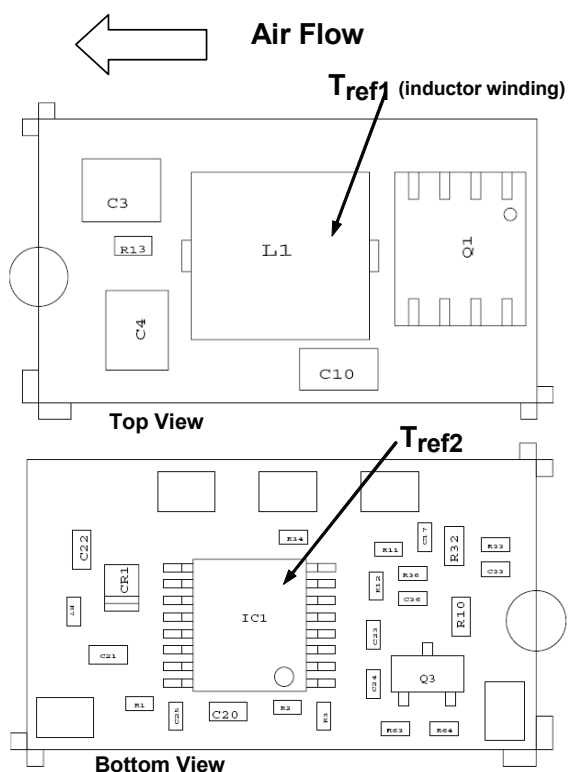
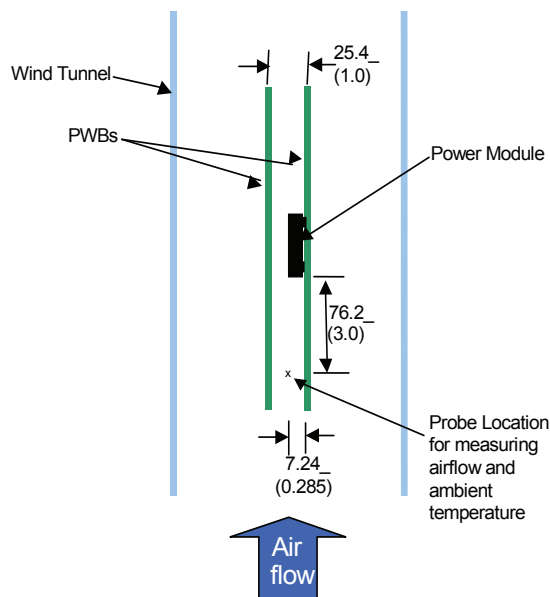

Figure 31. T_{ref} Temperature measurement location.
Figure 32. Thermal Test Set-up.
To provide over temperature protection in a fault condition, the unit relies upon the thermal protection feature of the controller IC. The unit will shutdown if the thermal reference point T_{ref2} , (see Figure 31) exceeds 140°C (typical), but the thermal shutdown is not intended as a guarantee that the unit will survive temperatures beyond its rating. The module will automatically restarts after it cools down.
Considerations include ambient temperature, airflow, module power dissipation, and the need for increased reliability. A reduction in the operating temperature of the module will result in an increase in reliability. The thermal data presented here is based on physical measurements taken in a wind tunnel. The test set-up is shown in Figure 32. Note that the airflow is parallel to the long axis of the module as shown in figure 31. The derating data applies to airflow in either direction of the module's long axis.
The thermal reference points, T_{ref1} and T_{ref2} used in the specifications of thermal derating curves are shown in Figure 31. For reliable operation these temperatures should not exceed 125°C.